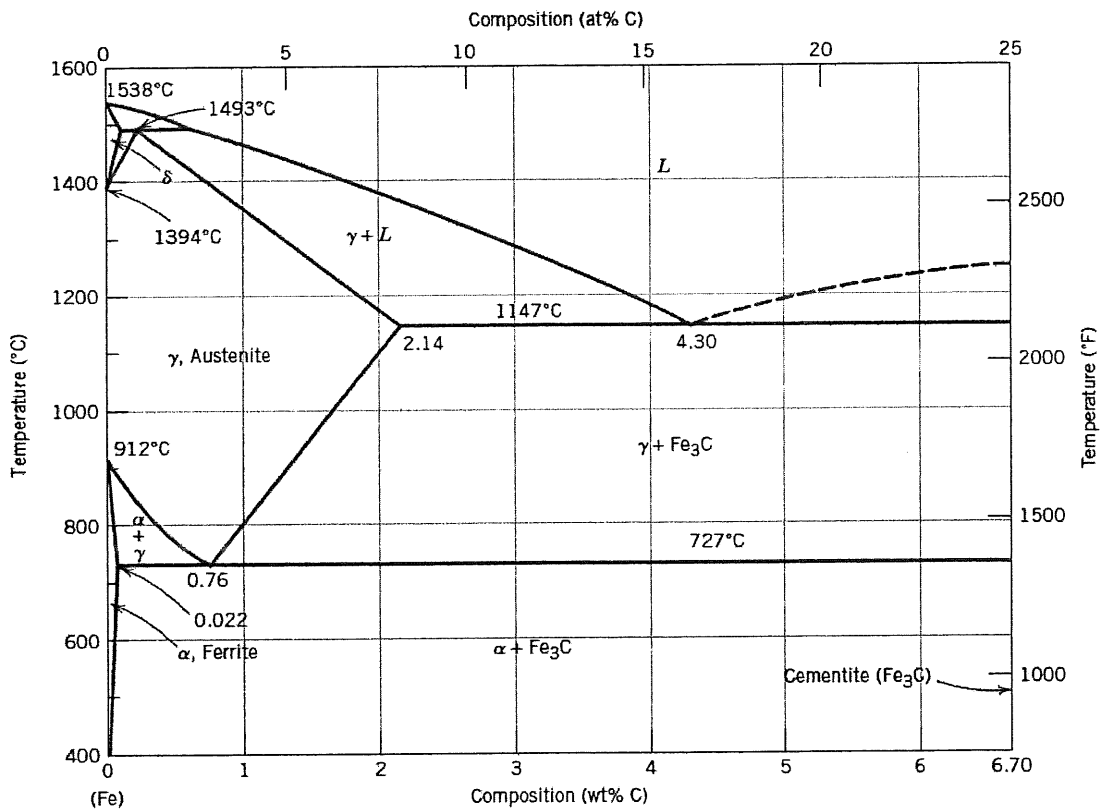

Figure 1: Phase diagram of iron-carbon system
- b) A 98.8 wt% Fe – 1.2 wt% C alloy in Figure 1 is heated to 1000°C and is cooling down to room temperature. Illustrate